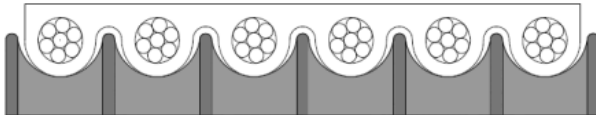

Fig. 14: Traction Member (CONTI POLYROPE® 25-6x2.0) with driving pulley [ContiTech]
- The traction member protrusions must be positioned in the pulley grooves (see Fig. 14).